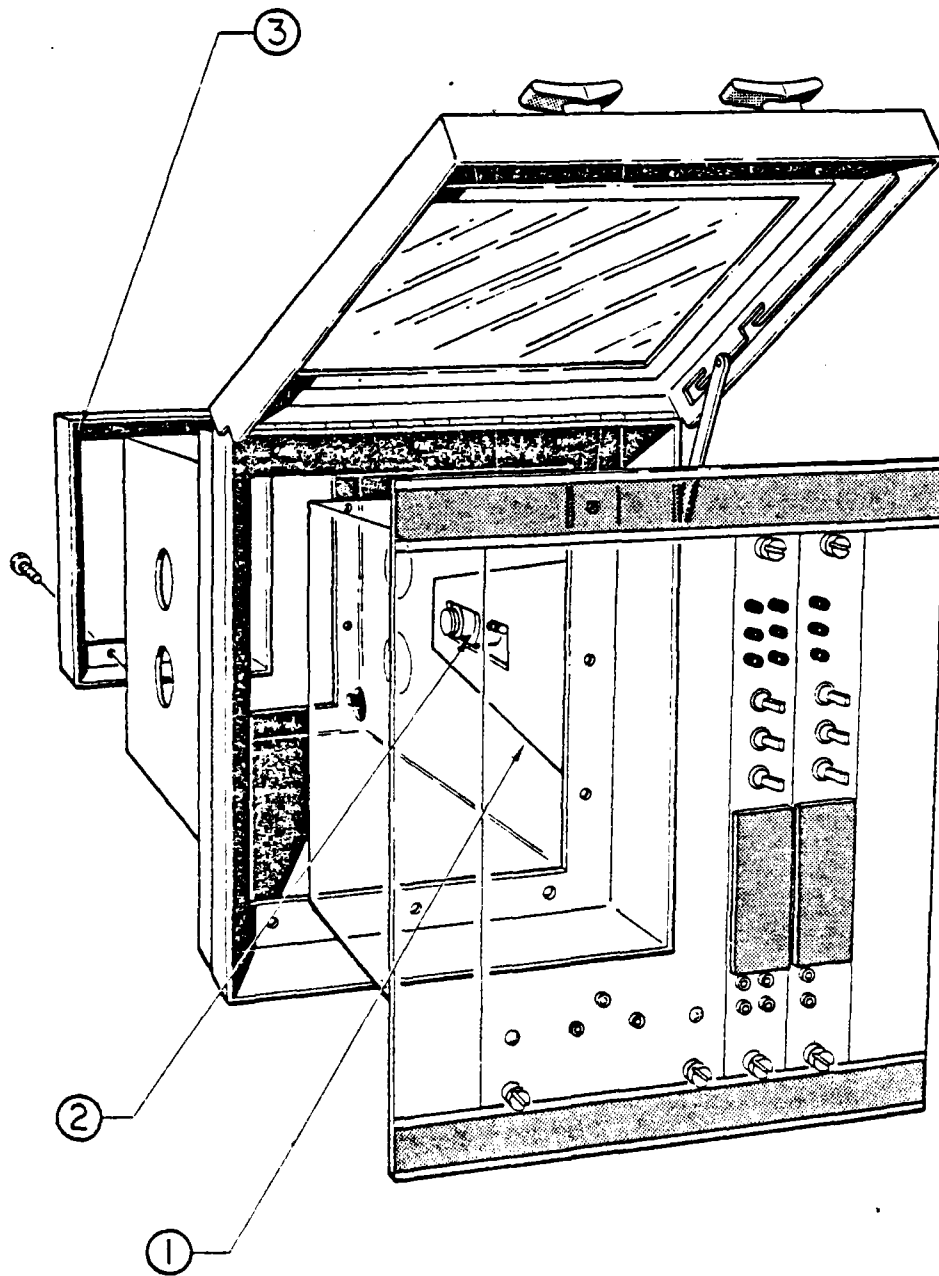

Figure 2-4. Rack-To-Weatherproof Housing Installation
- c. Insert the rack assembly into the housing. Refer to Figure 2-4.
- d. Install the panel clamps ① onto the rack assembly. Loosen the clamp slide screws as necessary to allow the slide buttons ② to engage the keyhole slots.
- h. Ensure that the housing rear sealing surface and the seal in the rear cover ③ are clean and undamaged. Do not apply sealing compound to the rear seal surfaces. Install the rear cover, then close the housing door.